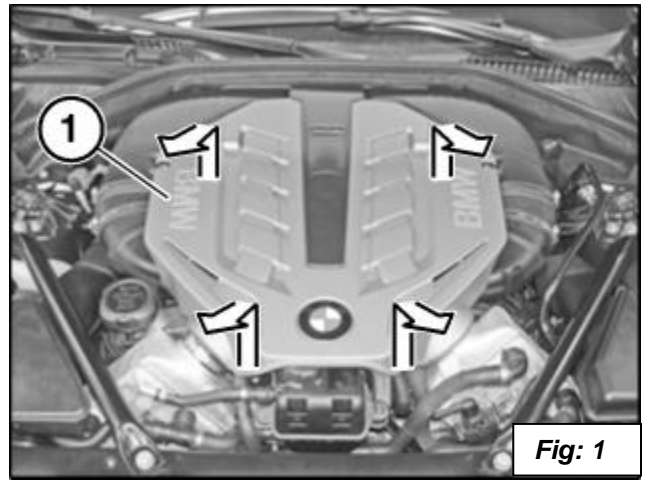

Fig: 1
1. Open hood and remove stock acoustic cover (1). Pull up as you work your way around from corner to corner then forward. See figure 1.